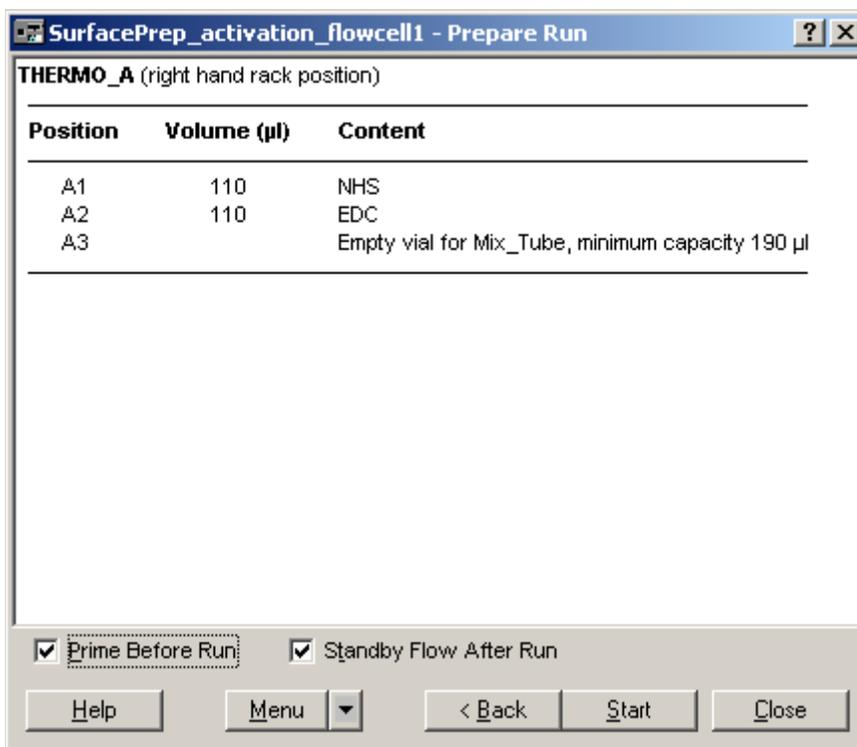

Figure 2.14
- 2.16.3 Run this method file for the activation of flow cell1 using the window shown in figure 2.14. Click on 'Start' for initiating the procedure.